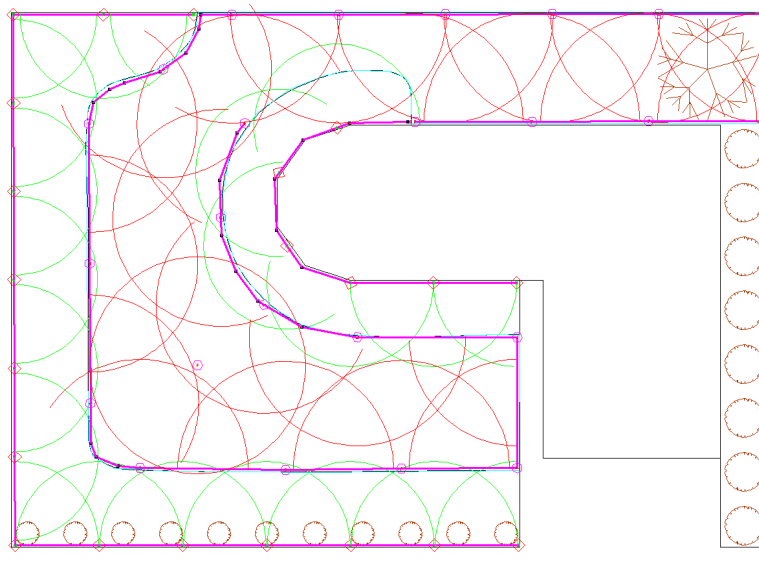

Figure 4-71
32. Adjust any arcs as required. Note, depending on the actual dimension of your design and the placement of the house etc, select outlets with the required radius as needed. If you have a larger area of lawn, select a different nozzle that gives you a larger radius of throw. Note that any outlet can be deleted, placed (select **Zone/Outlet**) or moved to achieve better coverage. See Figure 4-71.